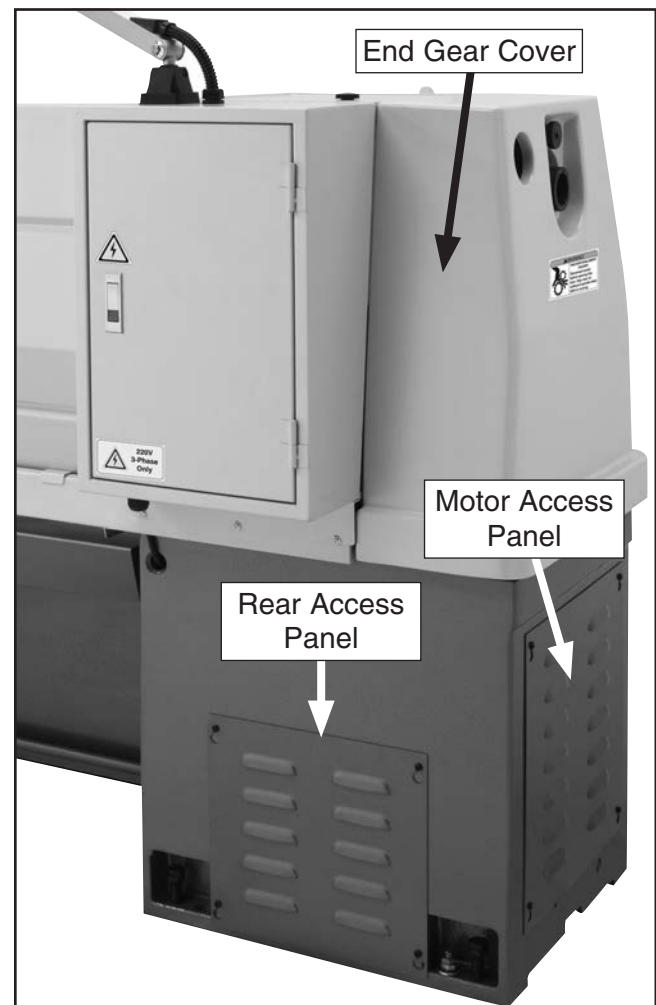

Figure 122. End gear cover and access panels.
2. Remove the end gear cover, the motor access panel, and the rear access panel to expose the V-belts, pulleys, and motor (see **Figure 122**).